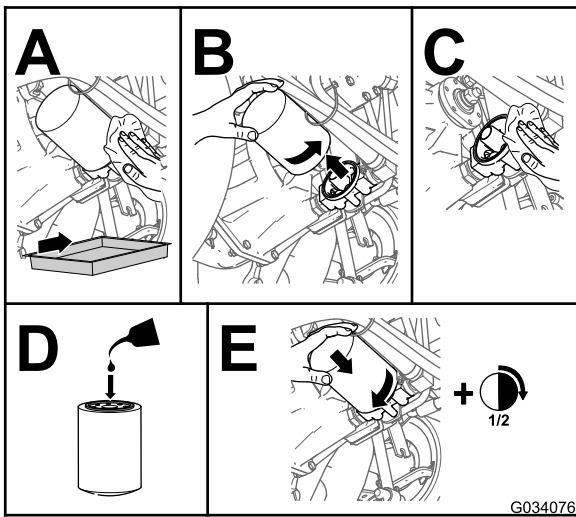

Figure 86
4. Replace the hydraulic filter (Figure 86).